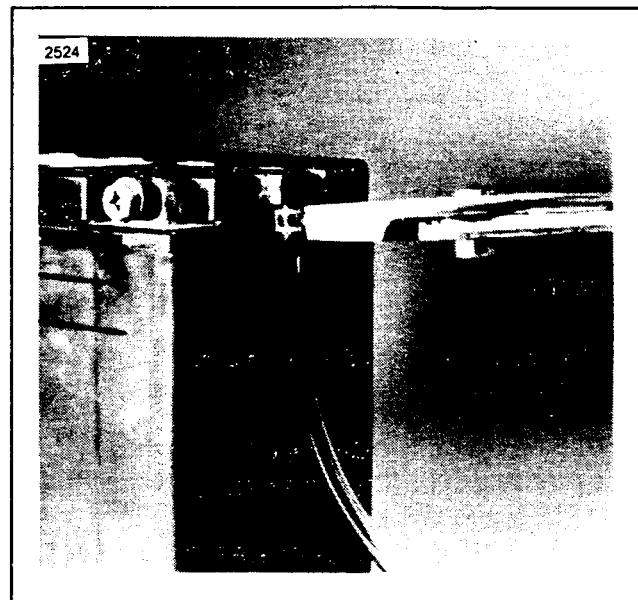

Figure 3. Tube Clamp Installation
3. Perform this step only on those batteries with smooth (not barbed) vent elbow. See Figure 3. Install the clamp on the long tube, sliding it up against the battery surface. Rotate the clamp tangs as far as possible toward the battery so the tangs cannot catch on clothing.